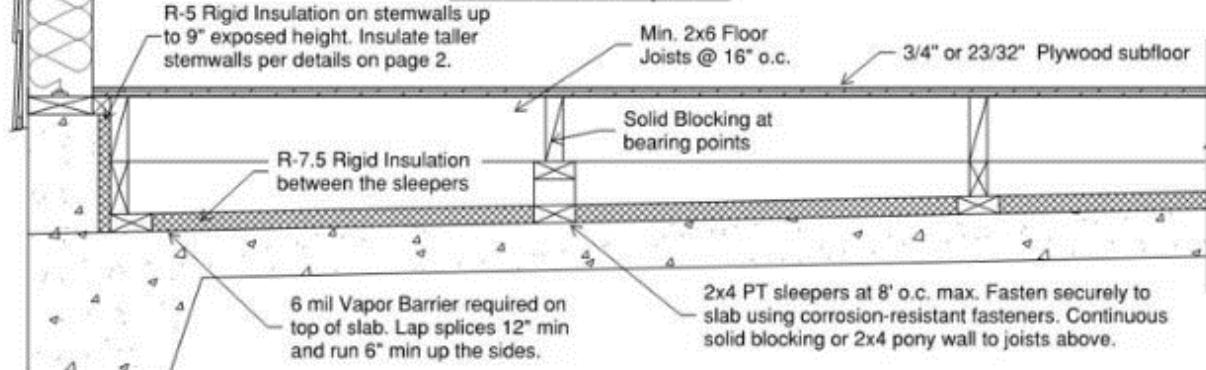

Figure 4: Approved Insulation Options Above the Slab
- The floor of the newly conditioned area is required to be insulated. While the energy code requires R-10 insulation under the slab perimeter, alternative and approved methods are provided without requiring removal and replacement of the existing slab. See figure 4
- If batt insulation is to be used in the raised framing without the R-7.5 rigid insulation indicated in figure 4, the minimum value is R-30 and the space below the floor joists will either need to be ventilated in accordance with IRC Section R408 or filled to capacity with rigid insulation.